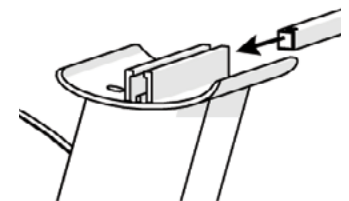

Figure 2
2. Attach the rear stabilizer to the frame using two bolts 1 and two washers 2 (Figure 2).
3. Using a hex key 11, tighten to 15.6 ft-lb (21.2 N-m).